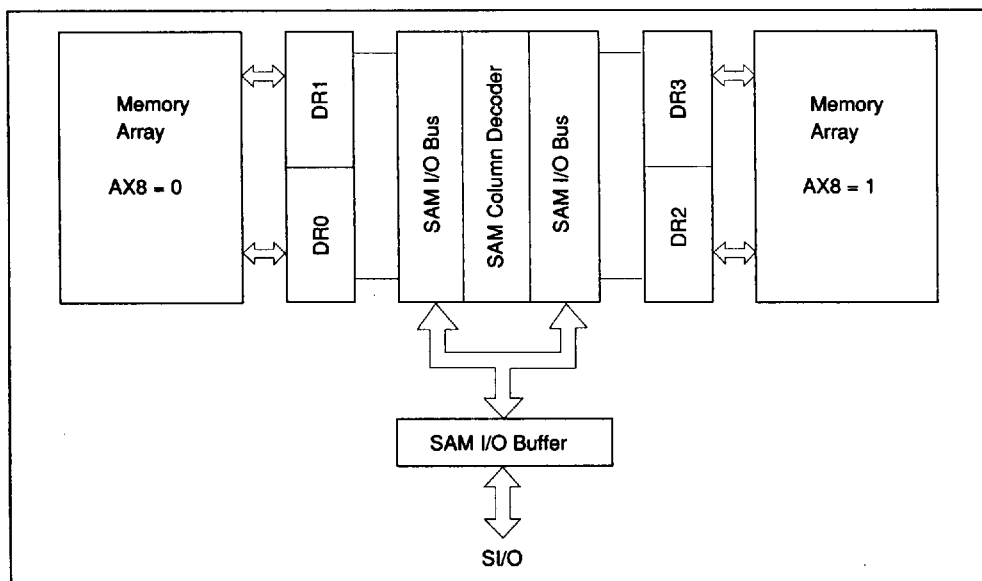

Figure 4 Split Transfer Block Diagram
Figure 4 shows the block diagram for the normal split register operation. SAM data register (DR) consists of 2 split buffers, whose organizations are 256-word  $\times$  8-bit each. Suppose that data is read from upper data register DR1. (The row address AX8 is 0 and SAM address A8 is 1.) When split read transfer is executed setting row address AX8 to 0 and SAM start addresses A0 to A7, 256-word  $\times$  8-bit data is transferred from RAM to the lower data register DR0 (SAM address A8 is 0)